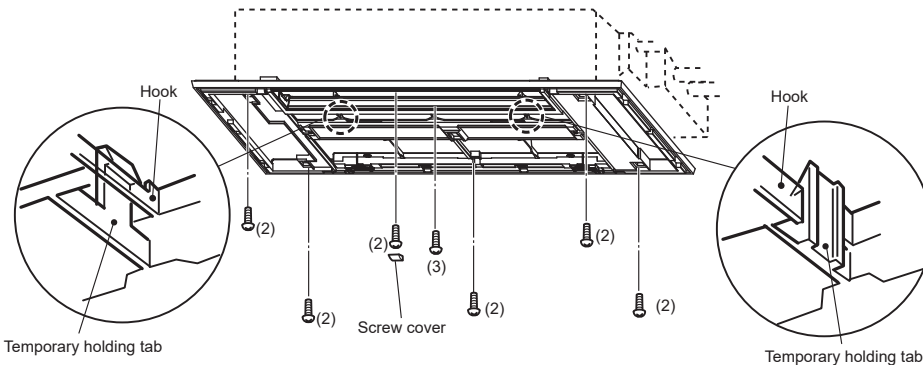

Fig. 5
5. Attach the temporary holding tabs on the grille to the hooks on the indoor unit. (Fig. 5)
Loosely install the 4 fixing screws (2) near the corners. (Fig. 5)
7. Tighten the fixing screws (2) and the fixing screw (3) at the middle of the grille. (Fig. 5)